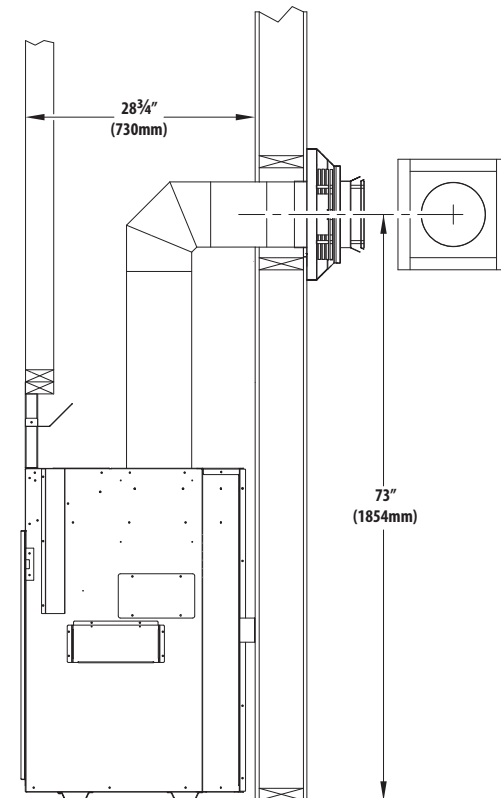

Figure 3.7, Vent Termination Minimum Framing Dimensions
1. Measure from floor level of the fireplace to the center of where the vent pipe will penetrate the wall. The dimension in Figure 3.7 on page 17 is used with a Simpson DuraVent elbow.
- Rigid pipe dimensions in Figure 3.7 are tested with listed Simpson DuraVent 5" x 8" coaxial pipe venting system ONLY.